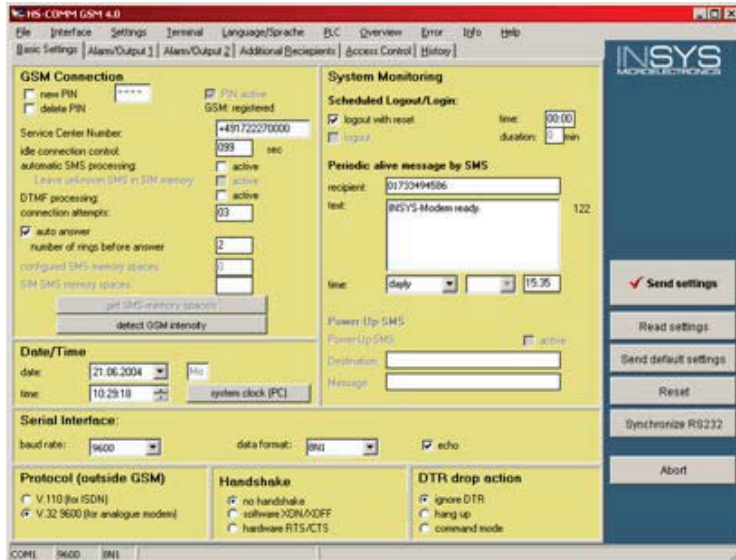

Fig. 220: GSM modem - basic settings
1. ➔ Set up the modem as shown in (Fig. 220) on the “Basic Settings” tab.